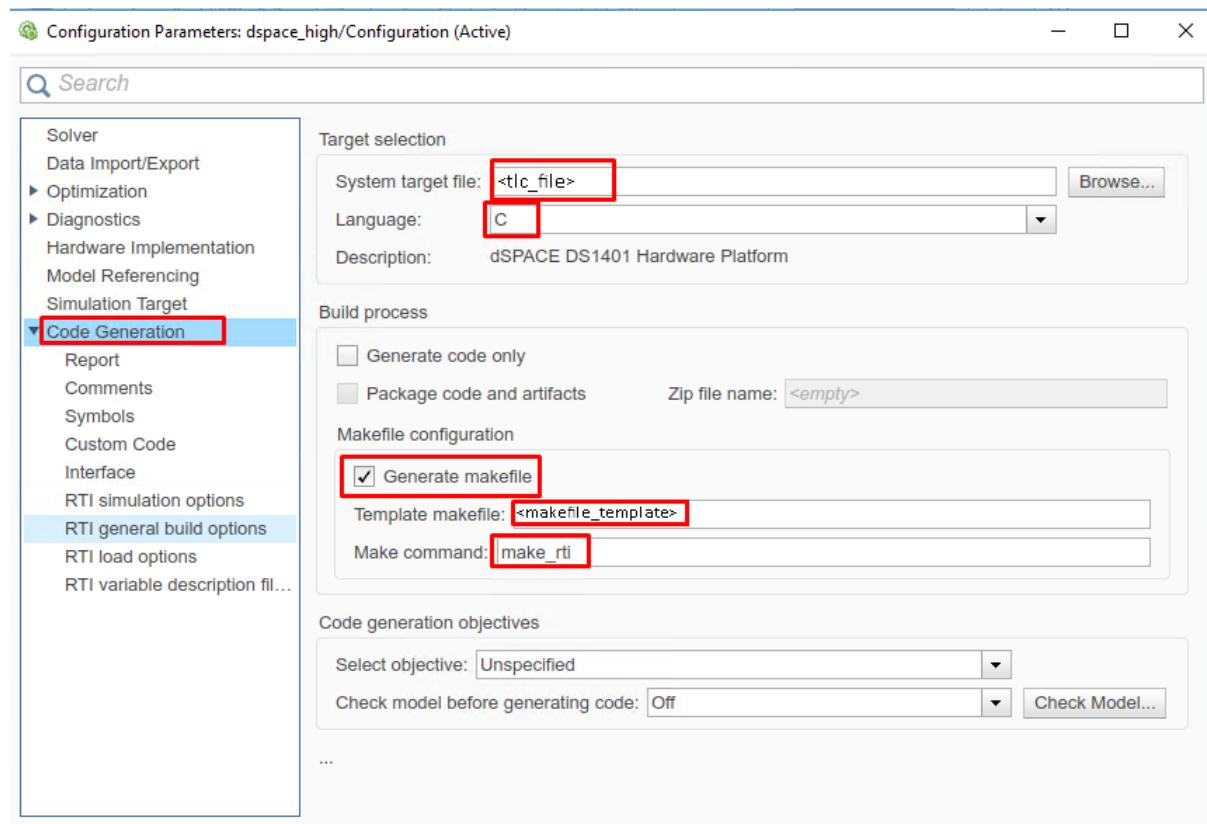

Figure 13.9: Set the Simulink code generation options.
9. (Figure 13.9) In the “Code Generation” tab, set the options (for <t1c_file> and <makefile_template> see *Simulink Model HW Target Configuration*):